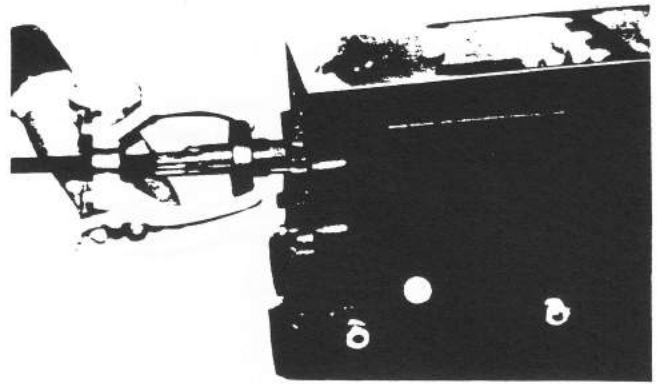

Fig. 9 Range Shaft
4. Unscrew each shaft end cover securing screws (M8) and remove the covers. Push forward the range shaft by gently striking it with a plastic tip hammer from behind, pull out the ball bearing with a special tool (T-60B UNIVERSAL STEERING WHEEL PULLER), and pull backward the range shaft (Fig. 9).